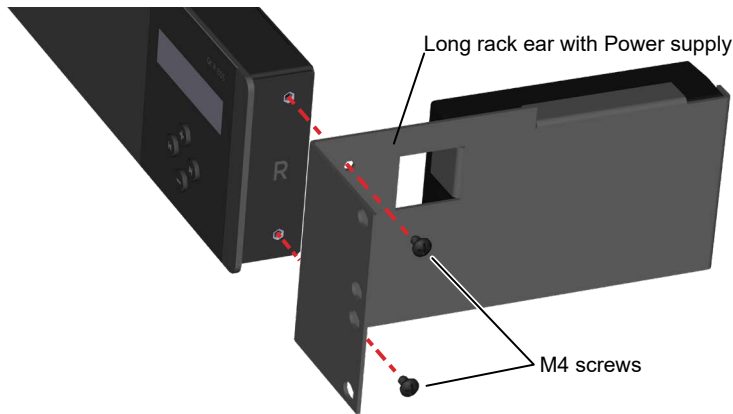

Figure 32. Remove rack brackets from the controller
1. Remove the rack mount brackets from the controller and reserve the M4 screws to attach the wall bracket later (Figure 32).